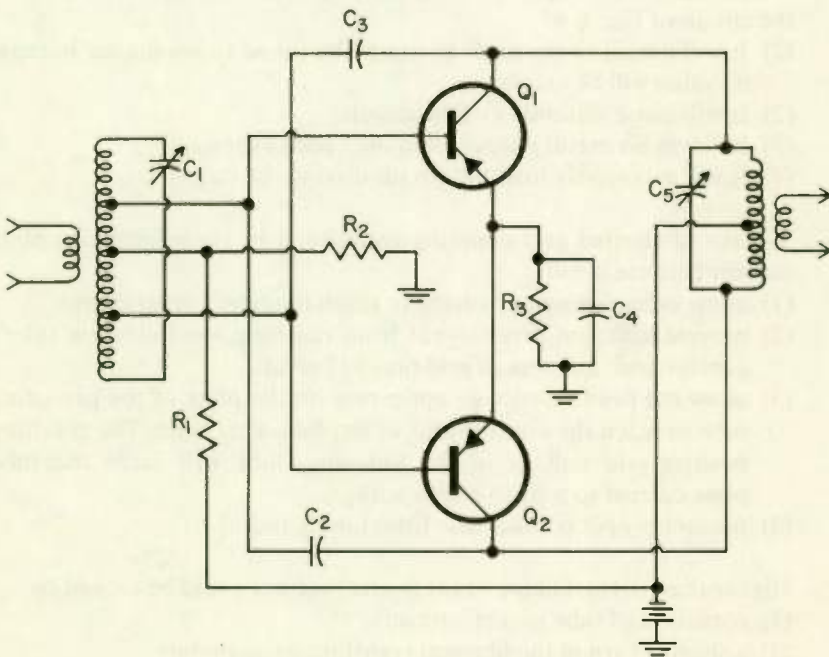

Fig. E.7
72. If the circuit of Fig. E.7 is used as a straight-through amplifier (that is, not as a frequency multiplier), C_2 and C_3 most probably function as